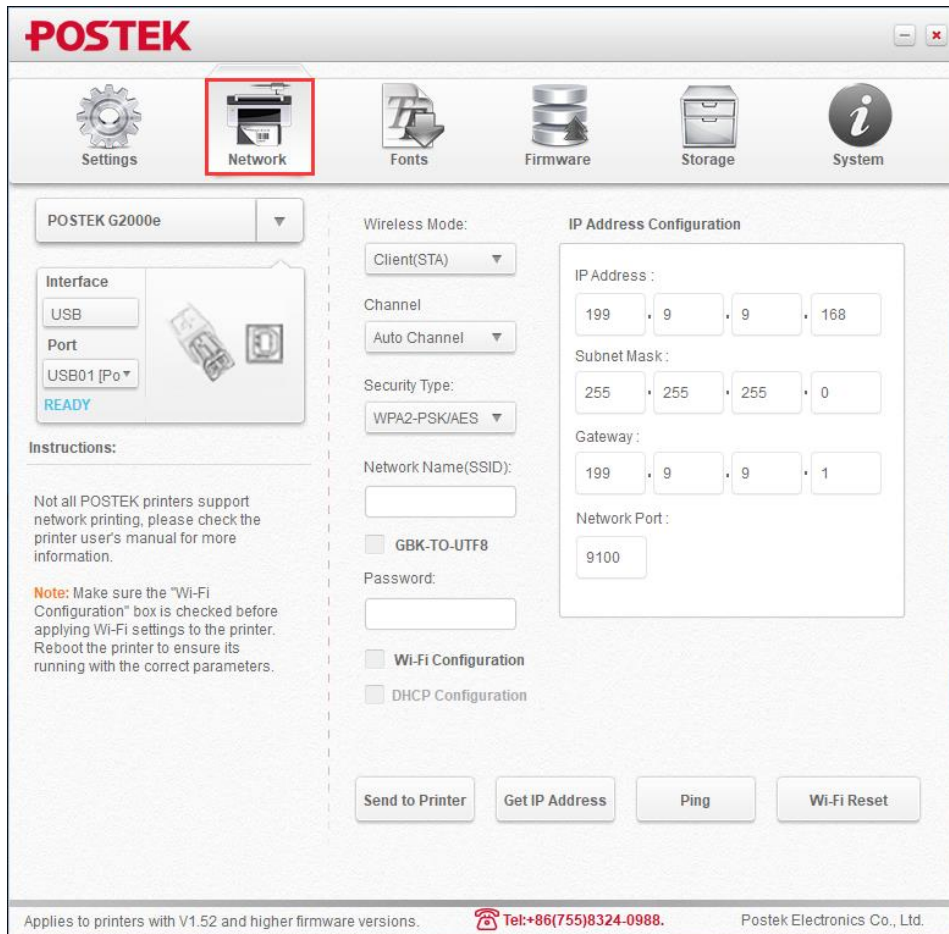

Figure 2-26 Open the Utility
3. Open the Utility software and click “Network”, as shown in Figure 2-26.